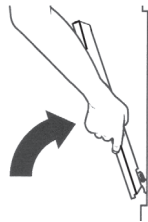
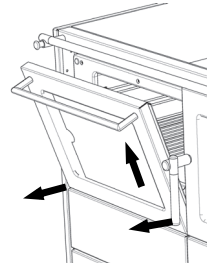

Fig. 67
Fig. 68
- Hold the oven door at the sides using both hands. Lift the door slightly and pull the hinges forwards from the door openings (Fig. 67/ Fig. 68).